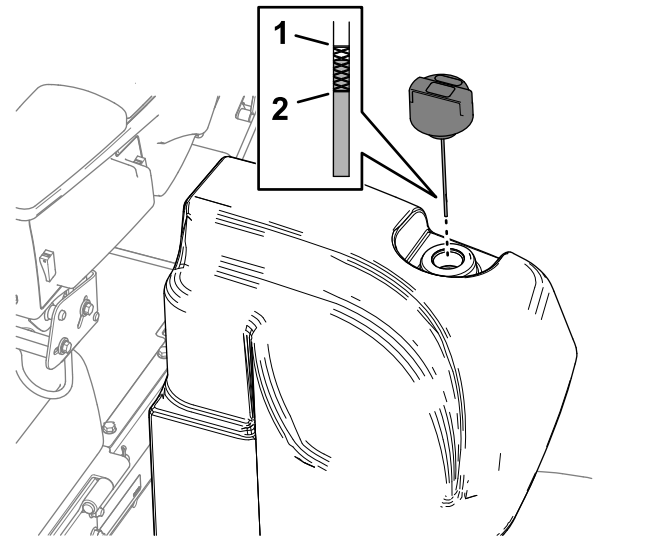

Figure 116
2. Clean the area around the filler neck and the cap of the hydraulic tank (Figure 116).